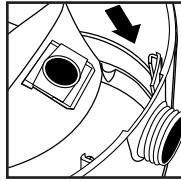

FIGURE 30
42. Slide deflector with collection bag attached into deflector guide. **FIGURE 30.**